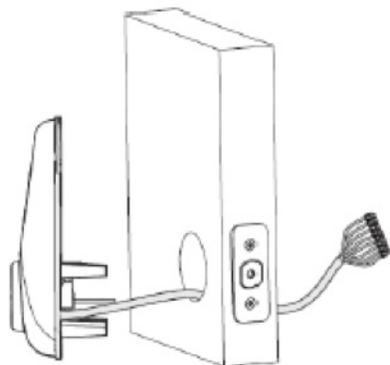
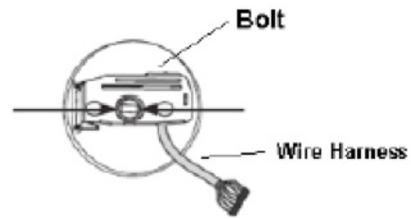

Figure 1A
Figure 1B
1. Install Outside Touchscreen side of the lock first (Fig. 1A). Route wire harness through bore hole under bolt (Fig. 1B). Ensure tongue slides through black deadbolt hole (Fig. 1B arrow pointed).
Note: Wire harness goes under bolt (Fig. 1B).